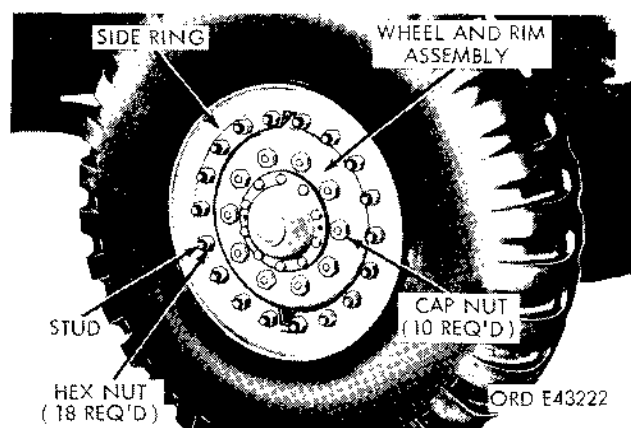

Figure 2-198. Wheel and tire assembly with bolted-on type side ring (14.00x20 tires).
(1) Where necessary, install the fittings on the vehicle, and tighten them in place.
(2) Where necessary, position the line and clip on the vehicle, and secure the clip with a screw and nut.
(3) Screw the connectors at both ends of the line into place. Tighten the connectors.
(4) Close the drain cock at the underside of the lower air reservoir.
*a. Wheels.* The wheels (fig. 2-198 and 2-199) are of the offset-disk type, and are interchangeable between the front and rear axles and on opposite sides of the vehicle. Two types of tire mountings are used. Some of the wheels are equipped with snap-on type side rings. The wheels are secured by capnuts installed on the mounting studs at the hub flanges. The capnuts are interchangeable between hubs on the same side, but not between hubs on the opposite sides of the vehicle.
### *b. Removal (figs. 2-198 and 2-199).*
On wheel and tire assemblies with bolted-on type side rings (fig. 2-198), do not loosen the side ring retaining nuts.
### *c. Installation (figs. 2-198 and 2-199).*
#### a. Removal (fig. 2-198).